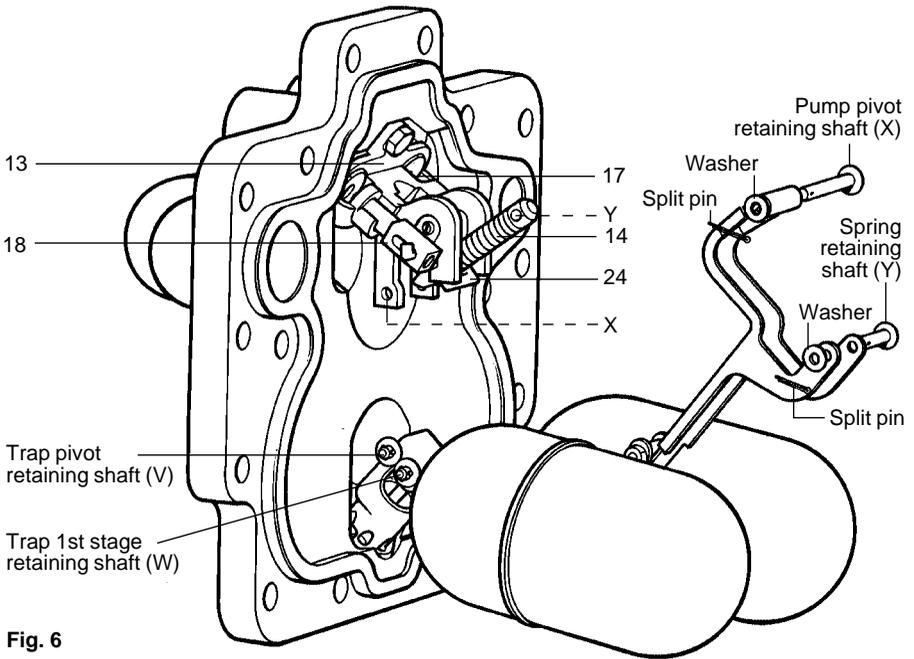
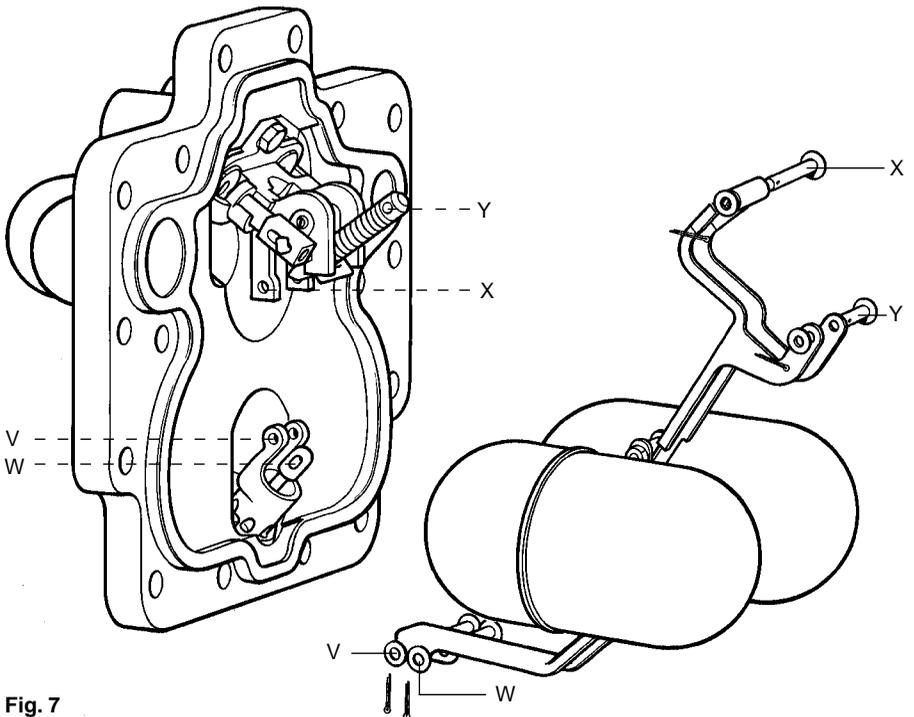

Fig. 6
Fig. 7
3. Remove a split pin and washer from one side of the spring retaining shaft (Y) (See Fig. 6).
4. Remove a split pin and washer from one side of pump pivot retaining shaft (X).
5. Carefully slide the shafts out from their respective positions observing the orientation of the spring and actuator arm (item 14, 24) within the pump bracket (item 13) as these will need to be refitted later.
6. Remove a split pin and washer from one side of the trap 1st stage valve retaining shaft (W).
7. Remove a split pin and washer from one side of the trap pivot retaining shaft (V).
10. It is easier to fit the replacement shafts in the following sequence:- (See Fig. 7).
- Y. **Spring retainer** (shaft length 30 mm)leaving the spring retaining shaft until after the spring and actuator arm have been correctly aligned and located within the slot of the pump bracket (item 13).